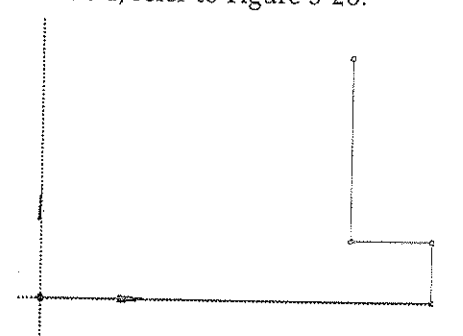

Figure 3-26 Specifying the endpoint of line 4
14. Move the cursor upward to some distance; the symbol of Vertical constraint (V) is displayed along the cursor. Click to specify the end point of line 4, refer to Figure 3-26.